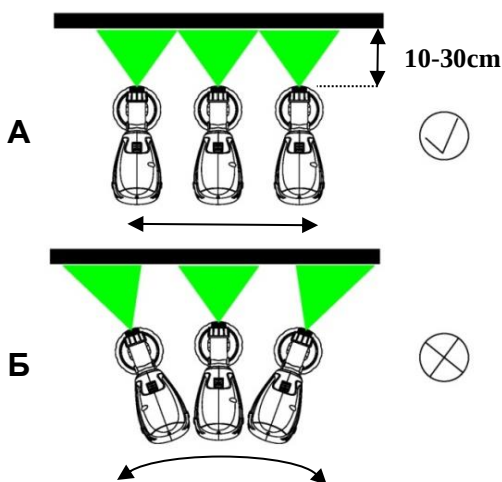

Fig. 6
- Uniform sprayer guidance ensures consistent surface quality (See Figure 6 A).
- Uneven spray distance and angle will result in heavy mist formation and result in uneven surface painting (See Fig. 6 B)